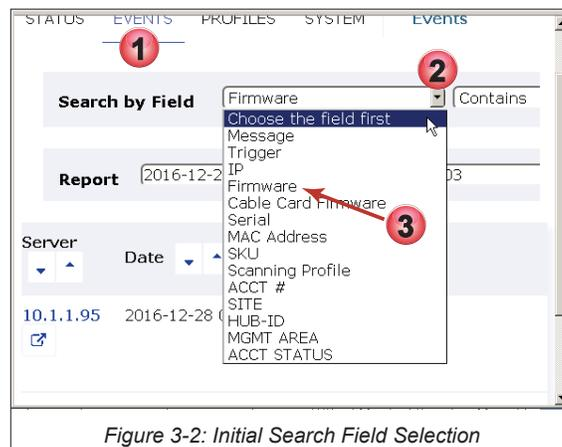

Figure 3-2: Initial Search Field Selection
This feature allows searching the list of reported faults based on header fields of the list. The initial field selection is a fixed list of fields based on Monitoring Server field headings as well as the MSO defined fields, see Figure 3-2 and also Table 3.2e for explanations of the search fields. These are presented in a dropdown menu as the first item to select.
1. Select the **Events** tab if it isn't already selected, Figure 3-2.